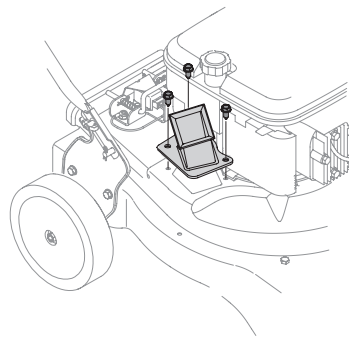

Figure 20
- Remove the three hex cap screws holding the chipper chute to the upper housing. See Figure 20.